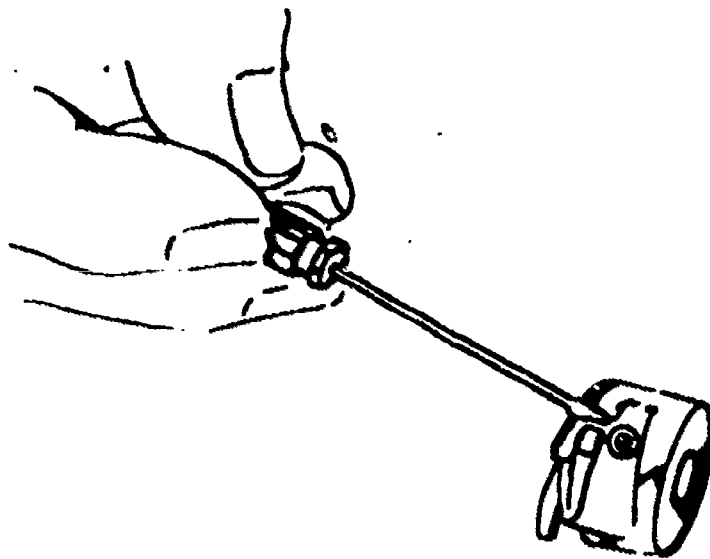

Figure 24. Bobbin Thread Tension Adjustment.
2. Bobbin thread tension. The tension on the bobbin thread is regulated by the bobbin case tension spring screw pointed out by the screwdriver in figure 24. To increase the tension, turn the screw to the right. To decrease the tension, turn the screw to the left. When the tension on the bobbin thread has been properly adjusted, it is seldom necessary to change it, because a correct stitch can usually be obtained by varying the tension on the needle thread. Changing the thread size sometimes makes it necessary to change the bobbin tension.